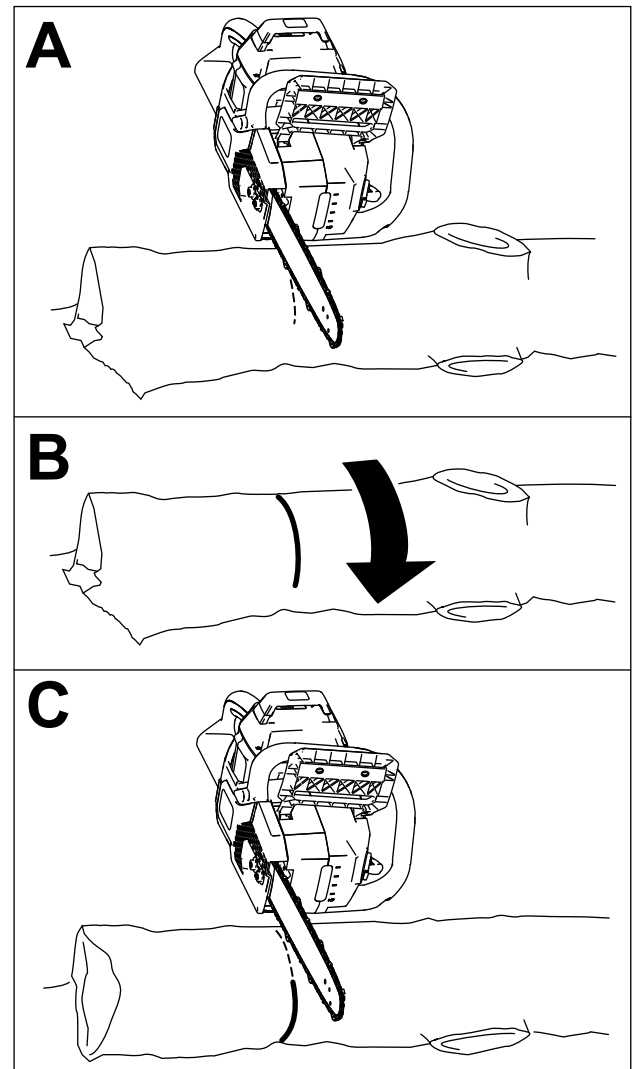

Figure 23
- If the whole length of the log is supported on flat, level ground, cut a third of the diameter from the top, then roll the log over and make another cut to meet the first cut (Figure 23).